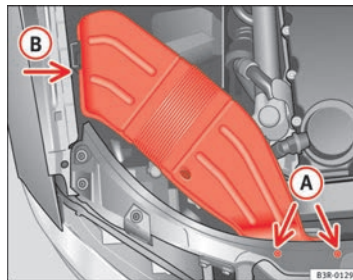

Fig. 216 Air duct on right side of vehicle
- Unscrew bolts **(A)** ⇒ page 272, fig. 216.